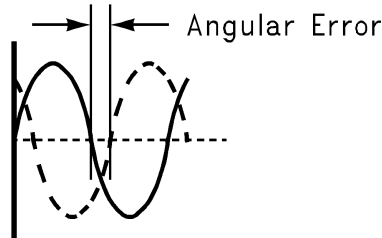
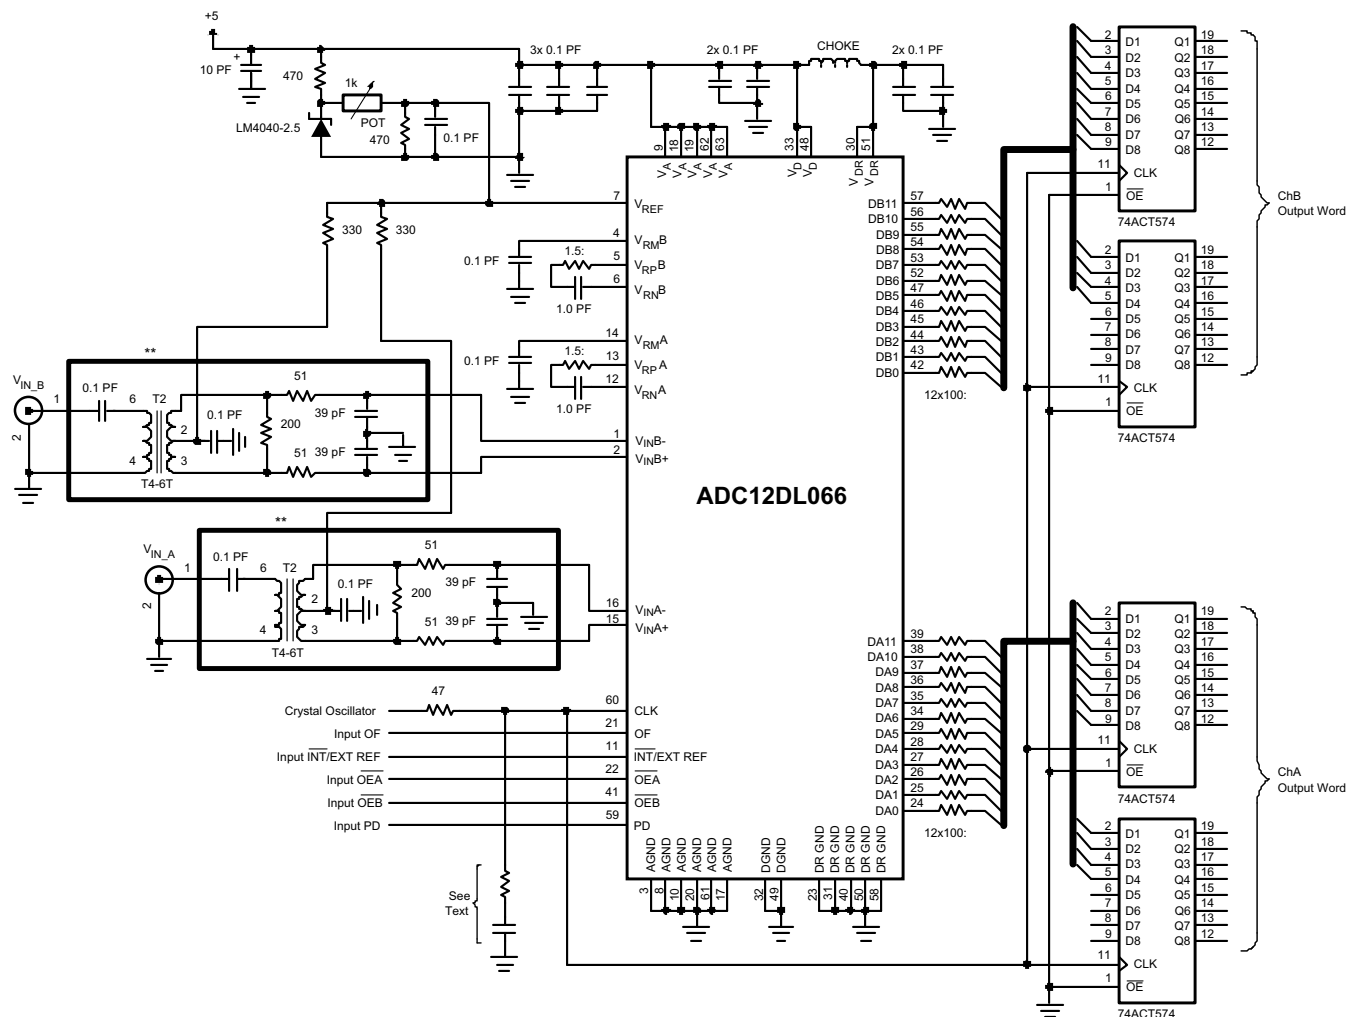
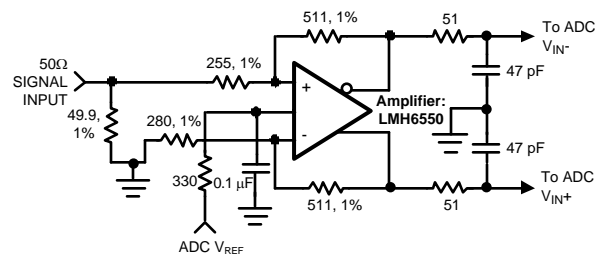

Figure 32. Angular Errors Between the Two Input Signals Will Reduce the Output Level or Cause Distortion
Figure 33. Application Circuit using Transformer or Differential Op-Amp Drive Circuit
Figure 34. Differential Drive Circuit using a fully differential amplifier.
The six Reference Bypass Pins (V_{RPA} , V_{RMA} , V_{RNA} , V_{RPB} , V_{RMB} and V_{RNB}) are made available for bypass purposes. The V_{RMA} and V_{RMB} pins should each be bypassed to ground with a 0.1 μF capacitor. A series 1.5 Ω resistor (5%) and 1.0 μF capacitor ($\pm 20\%$) should be placed between the V_{RPA} and V_{RNA} pins and between the V_{RPB} and V_{RNB} pins, as shown in Figure 33. This configuration is necessary to avoid reference oscillation, which could result in reduced SFDR and/or SNR.
- dev is the angular difference in degrees between the two signals having a 180° relative phase relationship to each other (see Figure 32). Drive the analog inputs with a source impedance less than 100Ω . (8)
Because very large input signal swings can degrade distortion performance, better performance with a single-ended input can be obtained by reducing the reference voltage when maintaining a full-range output. Table 1 and Table 2 indicate the input to output relationship of the ADC12DL066. Note again that single-ended operation of the ADC12D040 is not recommended because of the degraded performance that results. A single-ended to differential conversion circuit is shown in Figure 34.
To help isolate the pulses at the ADC input from the amplifier output, use RCs at the inputs, as can be seen in Figure 33 and Figure 34. These components should be placed close to the ADC inputs because the input pins of the ADC is the most sensitive part of the system and this is the last opportunity to filter that input.
Figure 33 shows a narrow band application with a transformer used to convert single-ended input signals to differential. Figure 34 shows the use of a fully differential amplifier for single-ended to differential conversion. The LMH6550 is recommended for single-ended to differential conversion when d.c. or very low frequencies must be accommodated. Of course, the LMH6550 may also be used to amplify differential signals.
It is highly desirable that the the source driving the ADC **CLK** pin only drive that pin. However, if that source is used to drive other things, each driven pin should be a.c. terminated with a series RC to ground, as shown in Figure 33, such that the resistor value is equal to the characteristic impedance of the clock line and the capacitor value is
To minimize noise due to output switching, minimize the load currents at the digital outputs. This can be done by connecting buffers (74AC541, for example) between the ADC outputs and any other circuitry. Only one driven input should be connected to each output pin. Additionally, inserting series resistors of about 100Ω at the digital outputs, close to the ADC pins, will isolate the outputs from trace and other circuit capacitances and limit the output currents, which could otherwise result in performance degradation. See Figure 33.
If the amplifier exhibits overshoot, ringing, or any evidence of instability, even at a very low level, it will degrade performance. A small series resistor at each amplifier output and a capacitor at the analog inputs (as shown in Figure 32 and Figure 34) will improve performance. The LMH6702 and the LMH6628 have been successfully used to drive the analog inputs of the ADC12DL066.